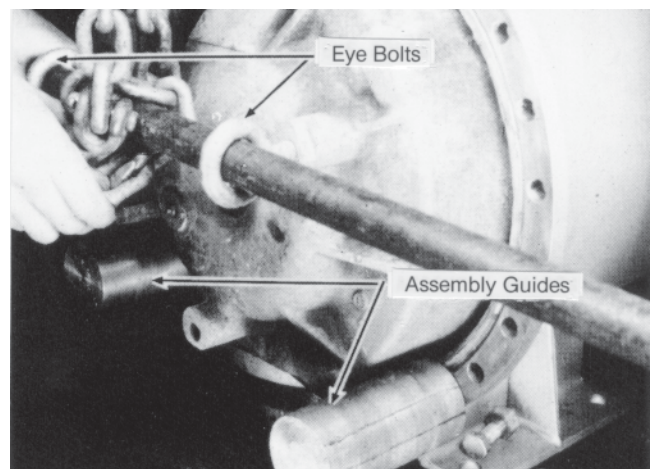

Figure 16 –Preparing to Remove Inner Mechanism
Inner mechanism removal is facilitated by the use of Smith Part Number 517261-1 assembly guides. Figure 16 shows guides in use.
5. Attach two (2) Part No. 517261-1 assembly guides to meter case, Figure 16.
6. Run a bar through the bolts and attach chain from hoist as shown in Figure 16.